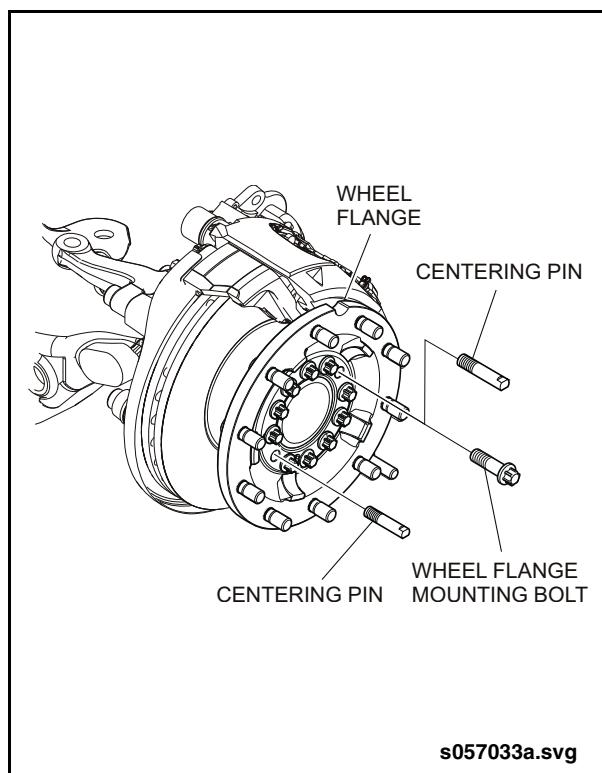

Fig. 1-11: Install Centering Pins
7. Install centering pins (Item 14 from special tools list) into the wheel hub threaded opening. See "Fig. 1-11: Install Centering Pins" on page 12.